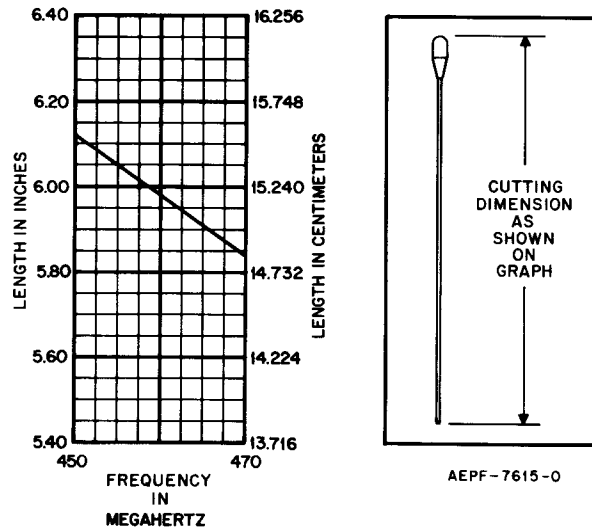

Figure 5. Antenna Cutting Chart
- e. Cut the antenna to length in accordance with the antenna cutting chart in Figure 5 for the specific frequency of operation.